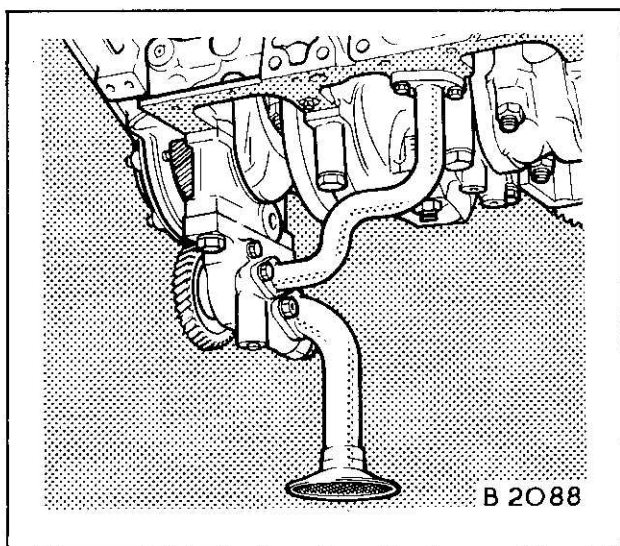
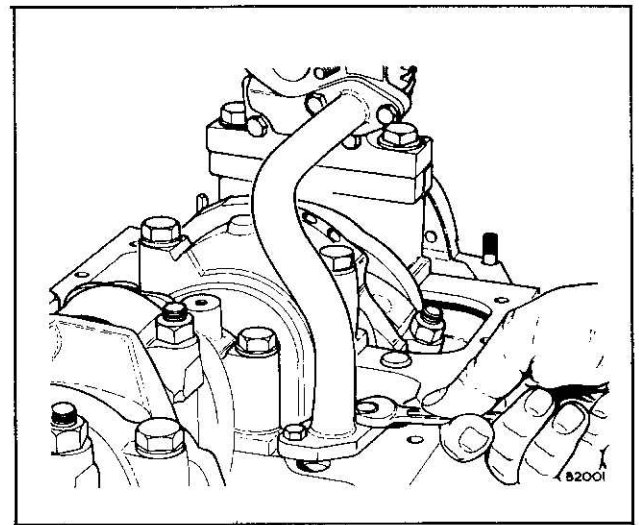

Fig. 1
Fig. 6
The strainer is fitted on the end of the oil pump suction pipe, Fig. 1.
2. Remove suction pipe, Fig. 1.
3. Remove oil delivery pipe, Fig. 6.
2. Fit oil delivery pipe, Fig. 6, and suction pipe, Fig. 1, with new gaskets.